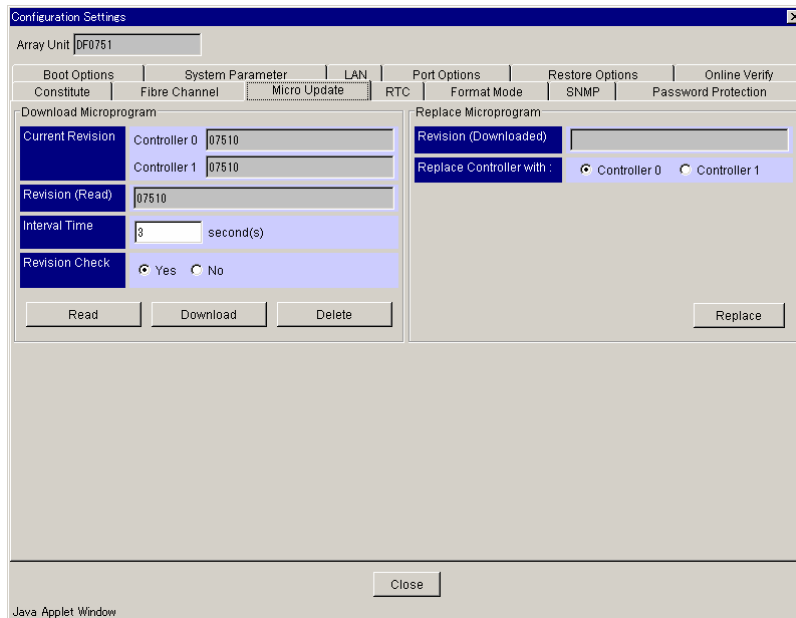

Figure 9.47 Configuration Settings - Micro Update
2. Click the **Micro Update** tab. See Figure 9.47.